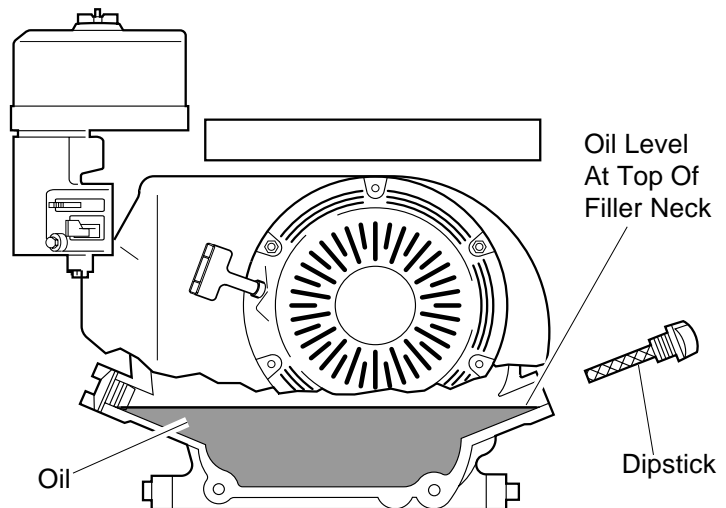

Figure 7 - Checking Oil Level
1. Remove dipstick (see Figure 7). Wipe dipstick clean.
3. If level is low, fill to top of oil filler neck (see Figure 7). Only use oil recommended in engine owner's manual.